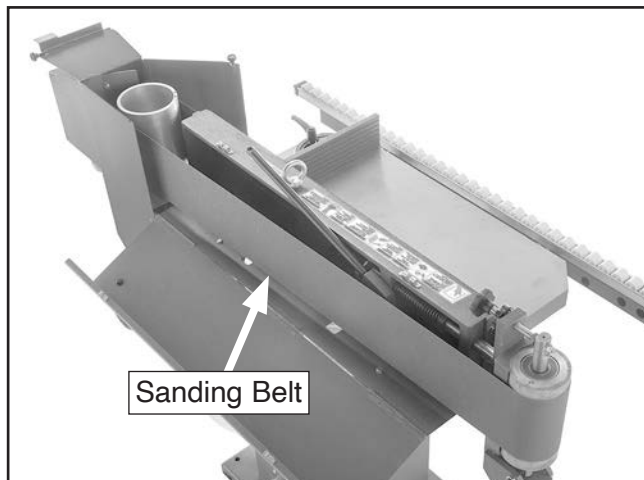

Figure 22. Belt installed around rollers tensioned.
8. Install and center sanding belt around rollers (see **Figure 22**), being sure arrows on belt match belt rotation arrow label on machine.
9. Move belt tension lever away from idler roller to tension sanding belt (see **Figure 22**), then remove belt tension lever and hang lever on storage screw.